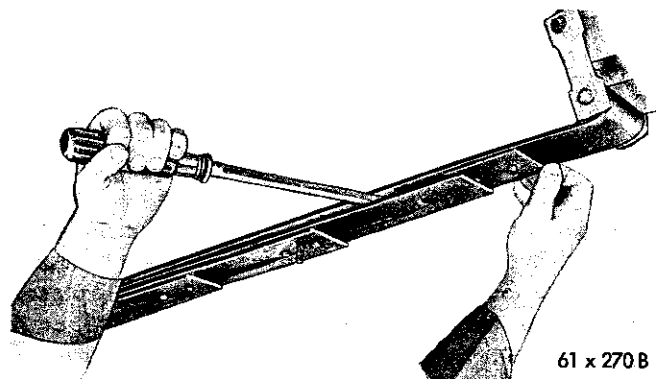

Fig. 5—Positioning the Inter Liner
(2) Insert the interliner between the spring leaves (Fig. 5) until the fasteners are aligned with the holes.